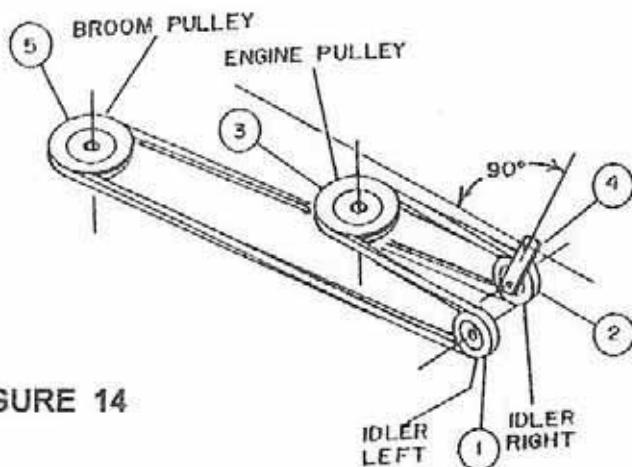

FIGURE 14
- d) Route the broom drive belt in the subframe, inside left belt guide (fig. 1, item 12), around the "V" idler pulley (fig. 14, item 1) inside the right belt guide (fig. 1, item 14), around "v" idler pulley (fig. 14, item 2) and around the tractor drive pulley (fig. 14, item 3).
NOTE: Be careful the left V-belt section between the two pulleys (fig. 14 item 1 & 5) is not twisted.